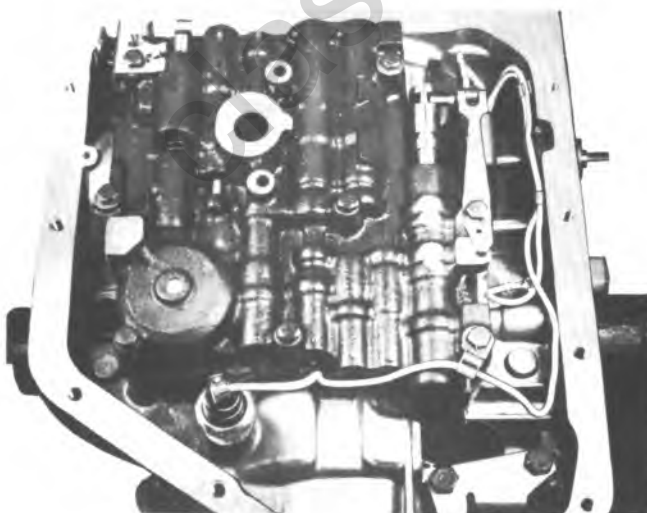

Figure 7A1-173B Solenoid Wire Clips
6. Install 4 check balls into ball seat pockets in control valve assembly and retain with petrolatum. (See Figure 7A1-174 for check ball location.)